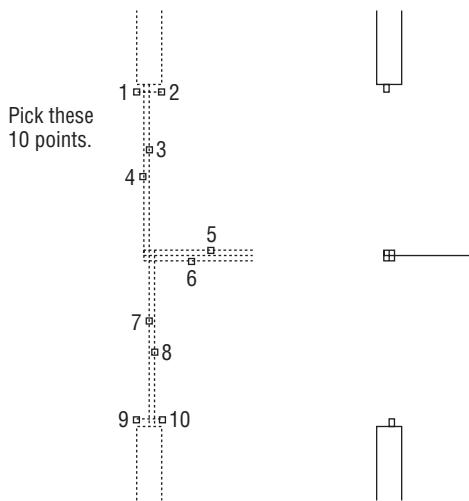

FIGURE 4.71 Lines to trim (left), and the result (right)
17. To trim the lines, pick them at the points noted on the left of Figure 4.71.
- When you finish trimming, the opening should look like the right side of Figure 4.71. Be sure to press ↵ to end the TRIM command.